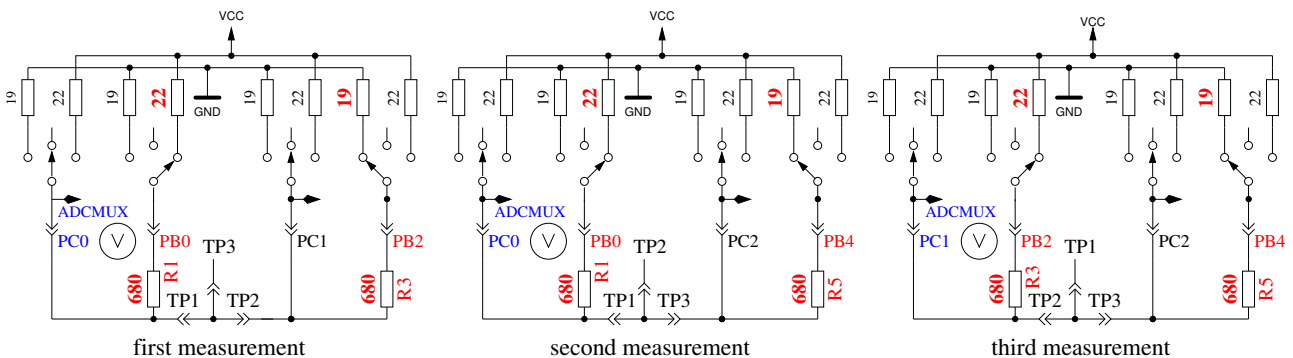

Figure 5.42: Comparison of 680Ω resistors
- Comparing of the 680Ω resistors.** In row 1 the cryptic text “+RL- 12 13 23” is shown. Meaning of this is as follows: The RL is the short form of Resistor Low meaning the 680Ω resistors. The 12 stand for: resistor at pin 1 is connected to VCC (+) and resistor at pin 2 is connected to GND (-). The result of this measurement is displayed in row 2 at the first place as difference to the theoretical value. In row 1 follows now a “13” which means, that the first connection of measurement 1 is still connected with 680Ω to VCC but that the resistor of pin 3 is connected to GND. The result is displayed in the middle place of row 2 as difference to the theoretical value. The last measurement of this test “23.” means that now the resistor at pin 2 is connected to VCC (+) and the resistor of pin 3 is connected to GND. The result of measurement is displayed at the last place of LCR row 2 as difference to the theoretical value. Please remember, that the resolution of the ADC is about 4.88mV! The measurement situation is also shown in figure 5.42. The theoretical value with respect to the internal resistance of the pins should be: $\frac{5001 \cdot (19+680)}{(19+680+680+22)} = 2493$.